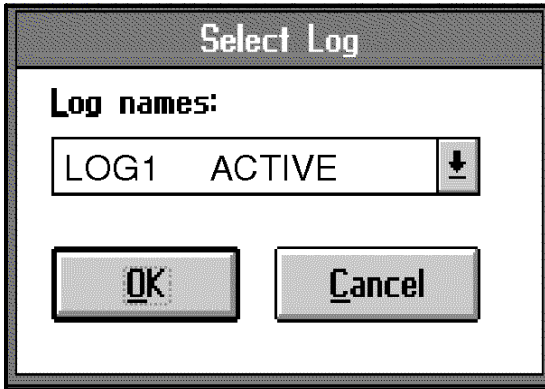

Figure 6-4: Log Selection
1. Select **Upload Log to PC Disk** command (**ALT+U** and **ALT+U**). A window similar to the one shown in Figure 6-4 below appears.